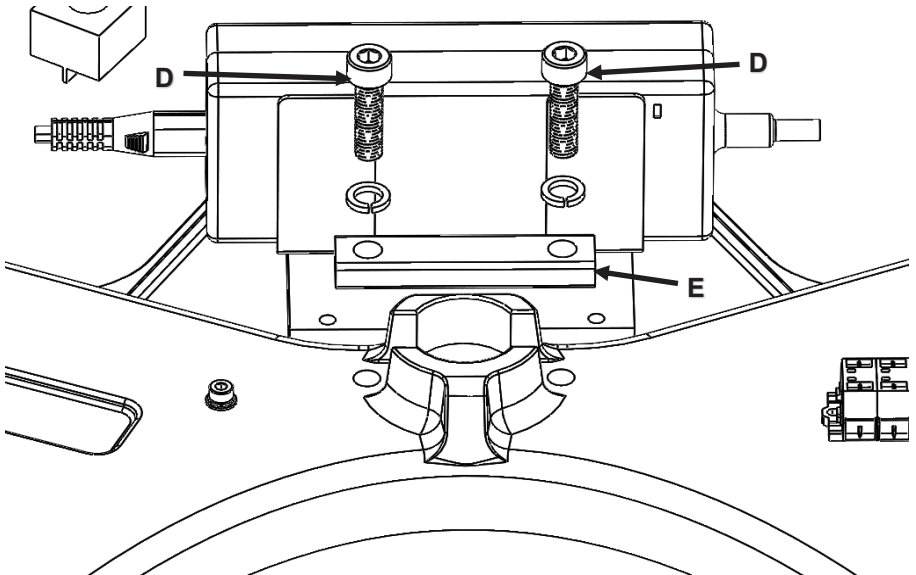

Figure 8: M8 screws and attachment bar.
10. On the base, remove two (2) M8 screws, washers (D), and attachment bar (E) using the 6mm Allen key. Place hardware aside for reassembly. Refer to Figure 8.